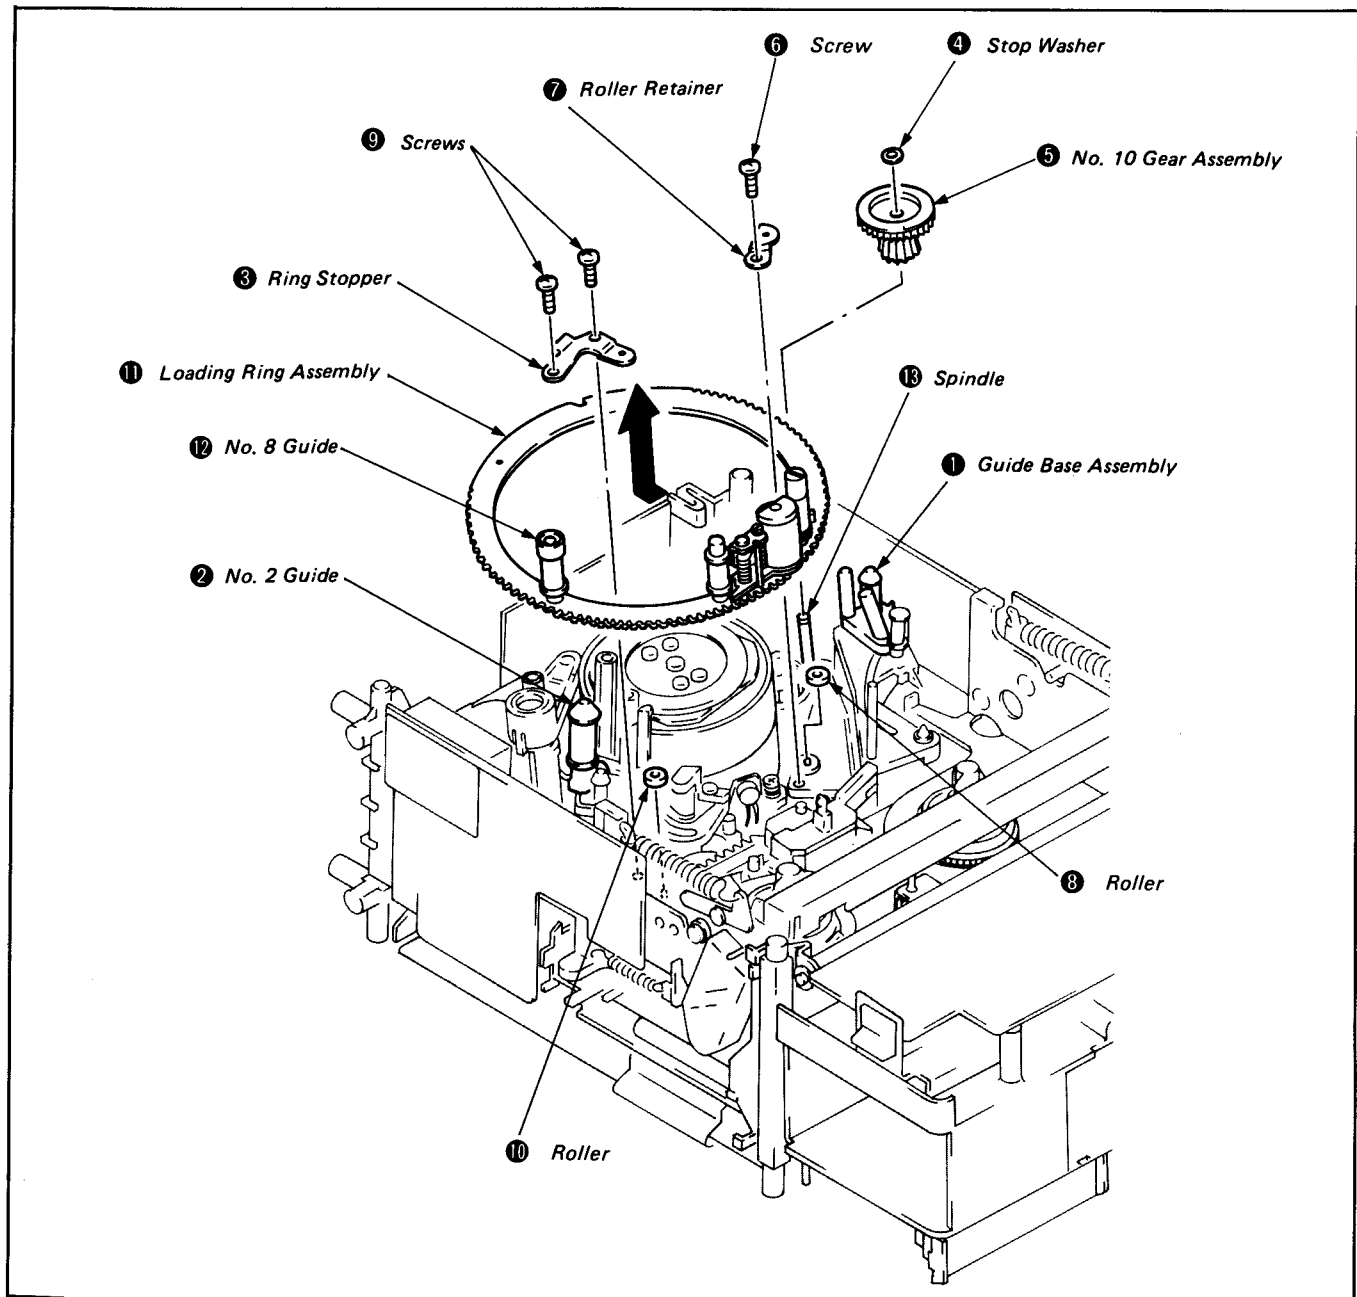

Fig. 8-13.
- 1) Operate the mode selectors to move the guide base assembly ① to immediately before the lock and the No. 2 guide ② to the position where the screw of the ring stopper ③ immediately before the lock. (Do not move the loading ring assembly ⑪.)
- 2) Remove the stop washer ④ and disengage the No. 10 gear assembly ⑤.
- 3) Remove the screw ⑥, roller retainer ⑦ and roller ⑧.
- 4) Remove the two screws ⑨, ring stopper ③ and roller ⑩.
- 5) Remove the loading ring assembly ⑪ in the arrow direction. (See Fig. 8-13.)
- 1) Remount the loading ring assembly ⑪ in an unthreading condition (with the pinch roller moved to the camera section side). (Check that the loading ring assembly is in the condition of 1) of Removal.)
- 2) Remount the roller ⑩ and ring stopper ③ and tighten the two screws ⑨. (The No. 8 guide ⑫ should be located near the control panel than the ring stopper ③.)
- 3) Remount the roller ⑧ and roller retainer ⑦ and tighten the screw ⑥. (Check that the loading ring assembly fits the three rollers.)
- 4) Oil half a drop of oil on the spindle ⑬. (See Fig. 8-13.)